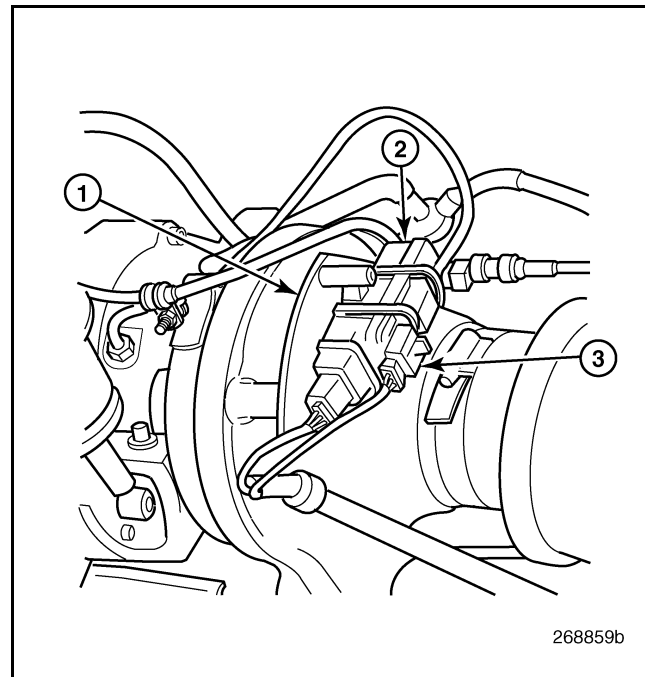

Figure 522 — Position Sensor Module and Thermal Isolation Plate Assembly
5. Cut the two tie straps that attach the turbocharger wheel speed sensor harness connector to the top of the vane position sensor module at the front of the turbocharger compressor housing (refer to Figure 522). Note the way the position sensor and wheel speed sensor wires are routed, and also note the orientation of the harness clamp.